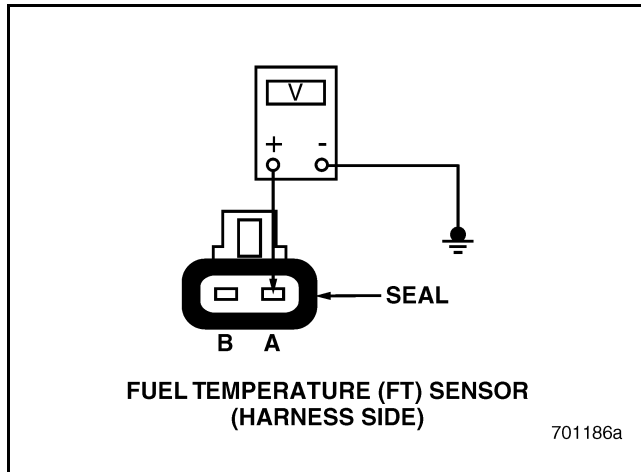

Figure 47
4. Check for continuity between pin A of the FT Sensor harness connector and a good ground (see Figure 47).